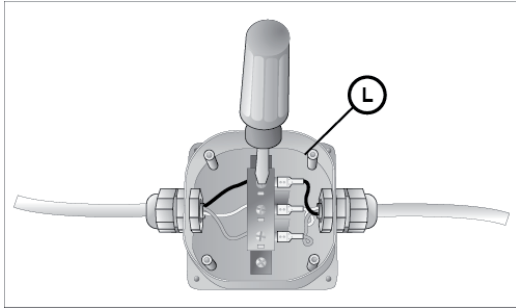

Figure 6
1. Remove the dishwasher electrical supply junction box (Part L) cover and connect to the power supply cord from the house installation. See **Figure 6**.
3. Insert the bare copper or green wire (ground) to the "G" \perp ground connection of the terminal block and securely tighten the terminal block screw (see Figure 6).